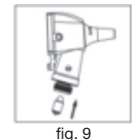

fig. 9
3. Pull the old bulb downward to remove; replace with new 3.0VDC 80Ma LED bulb (fig. 9).